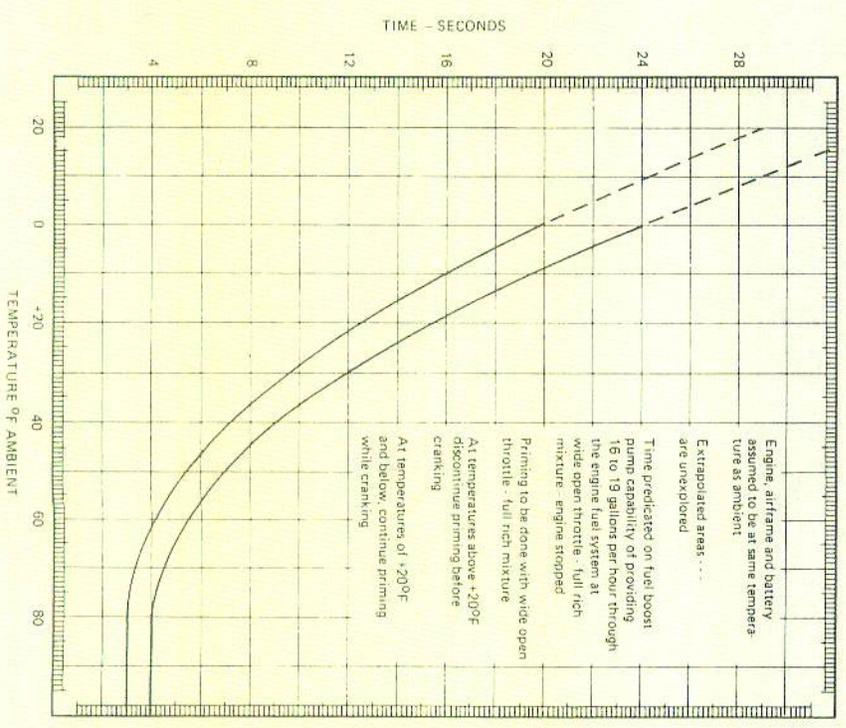

Figure 3-1. Priming Time Requirement
8. Primer - On (See Figure 3-1 for Priming Time).